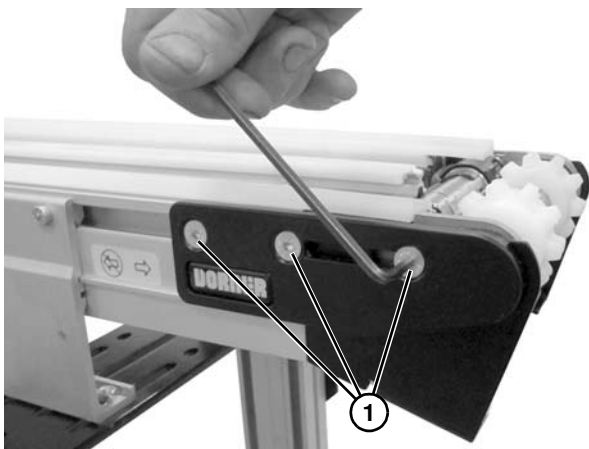

Figure 67
9. Remove three head plate fastening screws (**Figure 67, item 1**) from opposite side of conveyor.